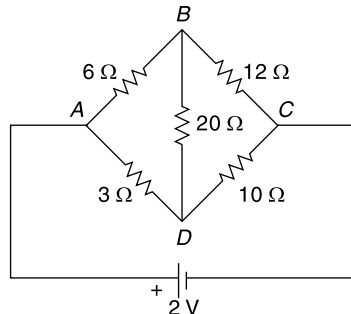

Fig. 4.204
43. Determine the current passing through the 20Ω (BD) resistor of the network as shown in Fig. 4.204 with the help of Thevenin's theorem.